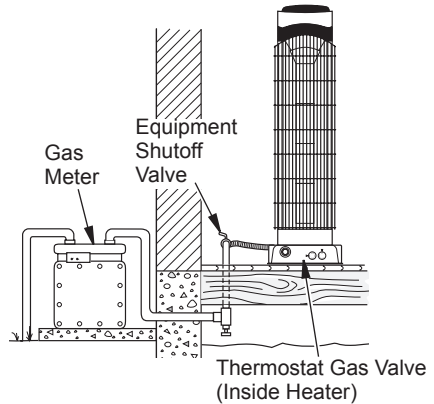
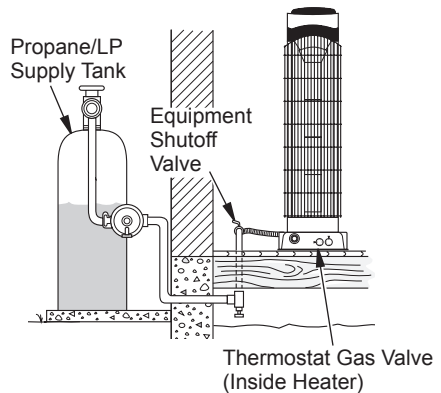

Figure 15 - Checking Gas Joints for Natural Gas
Figure 16 - Checking Gas Joints for Propane/LP Gas
3. Check all joints from gas meter for natural gas (see Figure 15) or propane/LP supply tank for propane/LP gas, to equipment shutoff valve (see Figure 16). Apply a noncorrosive leak detection fluid to all joints. Bubbles forming show a leak.
4. Check all joints from equipment shutoff valve to thermostat gas valve (see Figure 15 or 16). Apply a noncorrosive leak detection fluid to all joints. Bubbles forming show a leak.